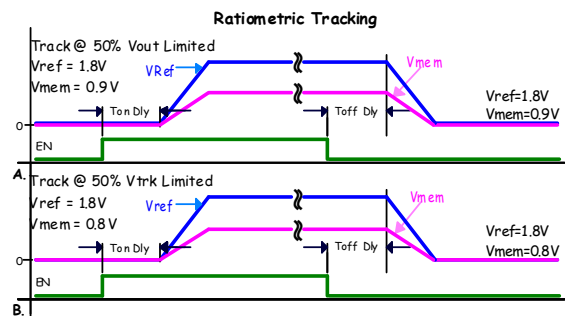

FIGURE 18. RATIOMETRIC TRACKING
1. Track at 50% V_{OUT} limited. Member rail tracks the reference rail and stops when the member reaches 50% of the target voltage, Figure 18(A).
2. Track at 50% V_{TRK} limited. Member rail tracks the reference at the instantaneous voltage value applied to the VTRK pin until the member rail reaches 50% of the reference rail voltage, or if the member is configured to less than 50% of the reference the member will achieve its configured target, Figure 18(B).